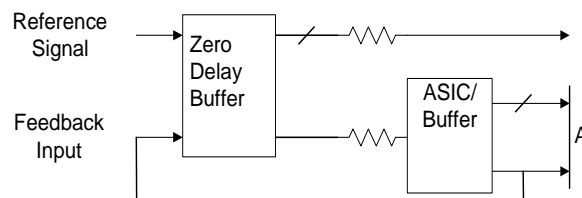

Figure 2. Six Output Buffer in the Feedback Path
Referring to *Figure 2*, if the traces between the ASIC/Buffer and the destination of the clock signal(s) (A) are equal in length to the trace between the buffer and the FBIN pin, the signals at the destination(s) device will be driven HIGH at the same time the Reference clock provided to the ZDB goes HIGH. Synchronizing the other outputs of the ZDB to the outputs from the ASIC/Buffer is more complex however, as any propagation delay in the ASIC/Buffer must be accounted for.